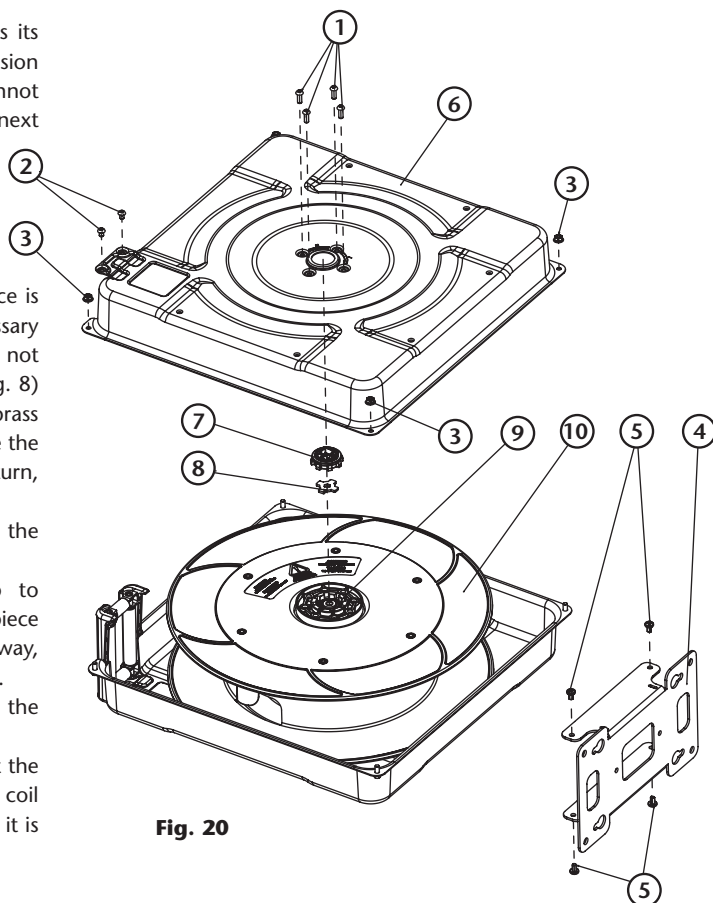

Fig. 20
If accidentally stress is applied to the Tensor piece (3) (fig. 8) by turning the square wrench (1) (fig. 9), when the four bolts (5) (fig. 8) had not been removed previously, the Tensor piece (7) (fig. 20) can be damaged. This could happen while installing/replacing the hose, or during the power spring load adjustment.
8. Now it is necessary to take away the casing side, for doing this, proceed to take apart the bolts (1) (fig. 20).
9. Take apart the two bolts (2) (fig. 20) located in the roller outlet side.
10. Disassemble the base (4) (fig. 20) by loosening the bolts (5) (fig. 20).
11. Loosen the bolts (3) (fig. 20) which join both casing sides. Now you can take apart the casing side (6) (fig. 20) been able to access the Tensor piece (7 & 8) (fig. 20).
12. Replace the tensor piece (7) (fig. 20) and its inner metal sheet (8) (fig. 20) for a new ones. Make sure to assemble the inner metal sheet inside the plastic tensor piece, before placing the assembly on the spring fixation (9) (fig. 20).
13. Assemble again all the components in reverse order, by placing the unassembled casing side (6) (fig. 20) and fixing it to the other casing side by tightening the bolts (3) (fig. 20).
14. Assemble the base again (4 & 5) (fig. 20), and the roller outlet bolts (2) (fig. 20).